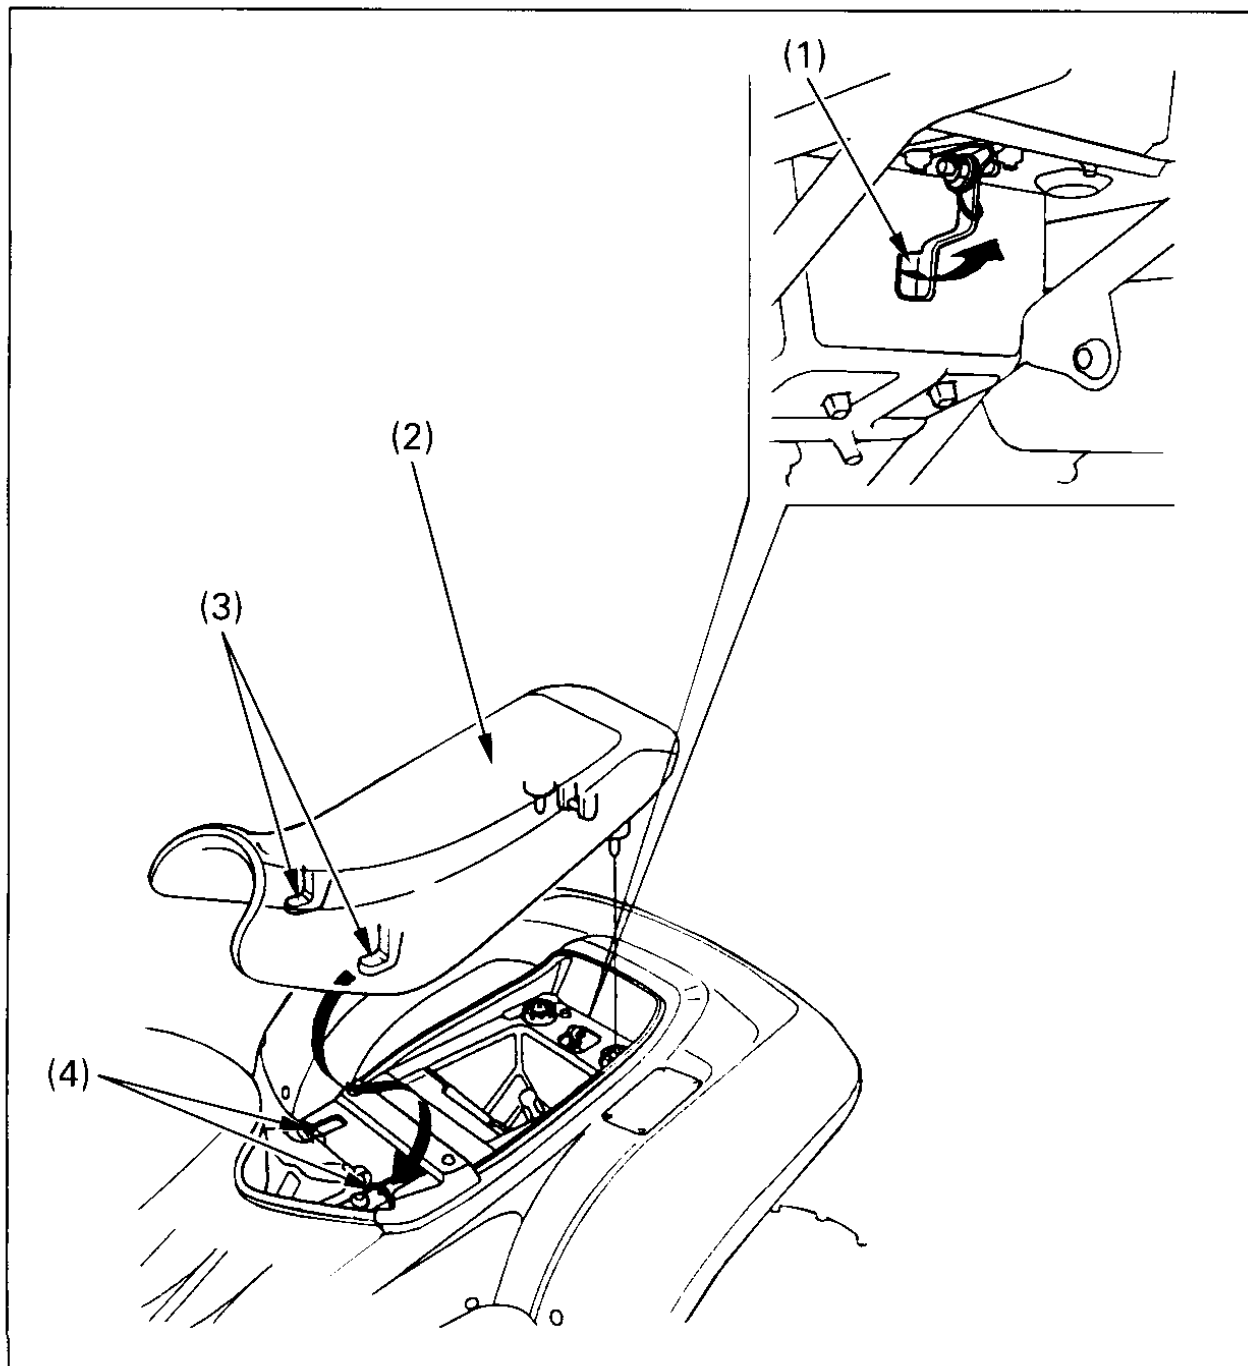

Fig. 4-25
To remove the seat (Fig. 4-25), pull up the seat lock lever (1) behind the seat and lift the seat.